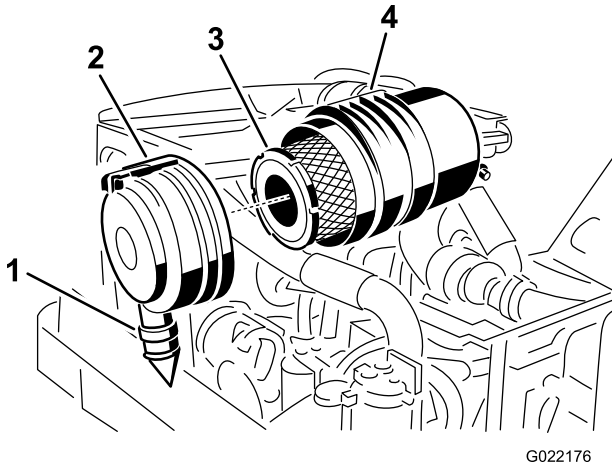

Figure 119
4. Remove the primary filter (Figure 119).